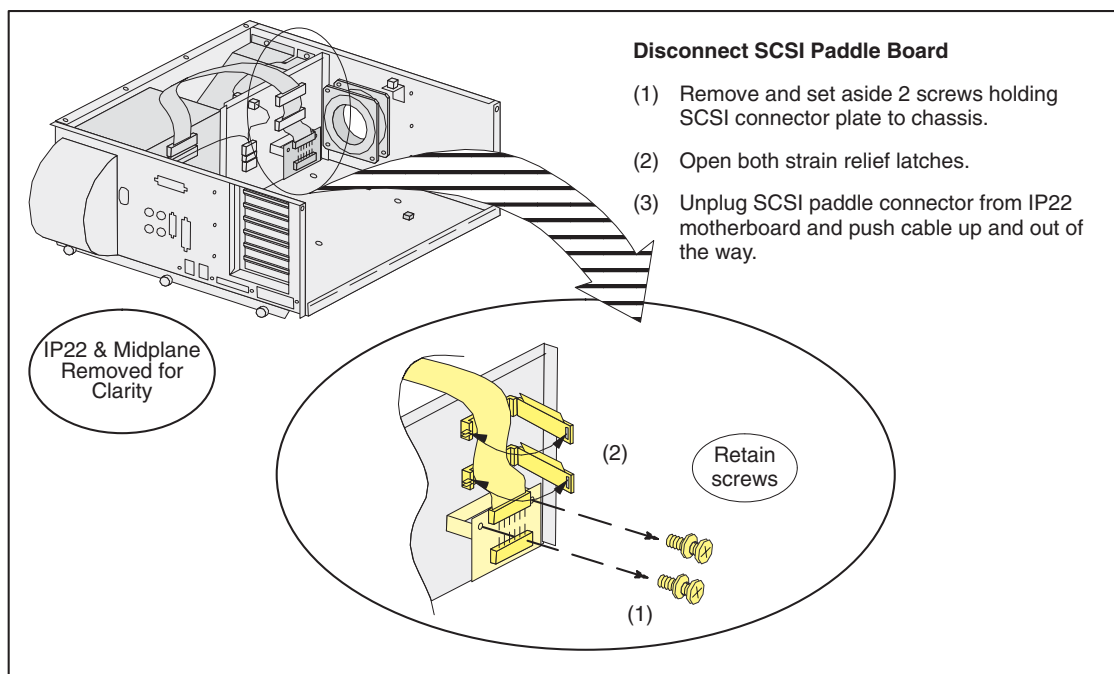
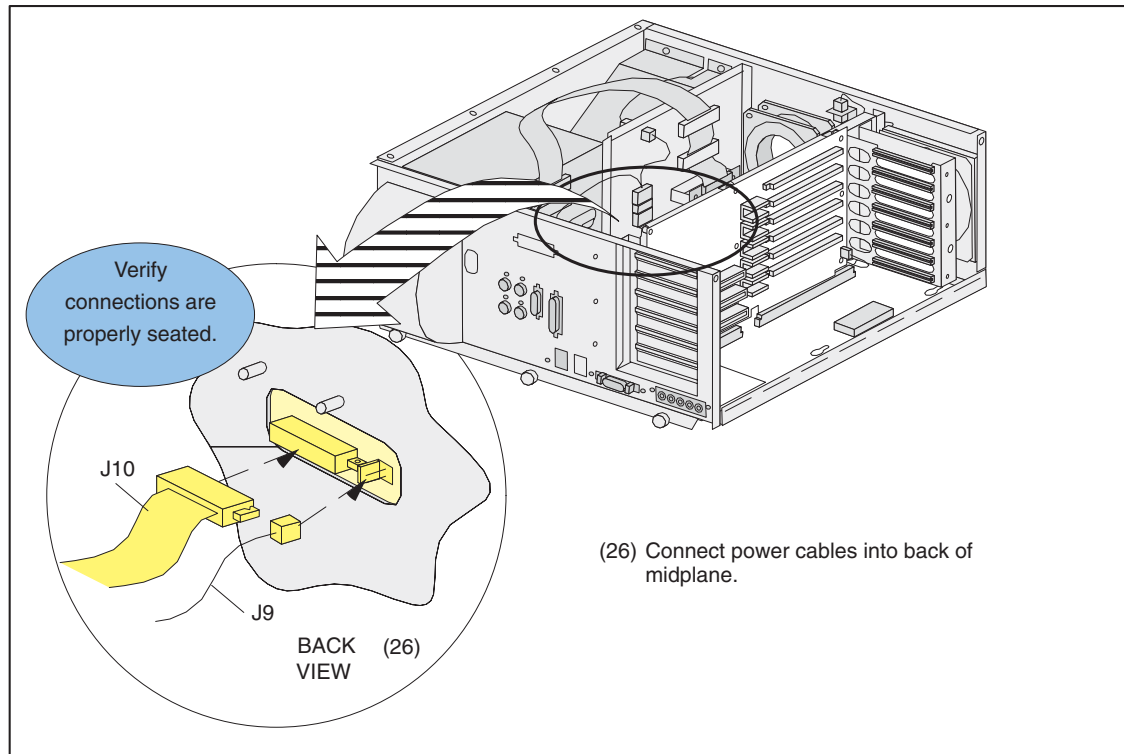

Figure 8-71 Disconnect SCSI Paddle Board
Figure 8-82 Re-Connect Midplane Power Connections
- 2.) Remove the Midplane Assembly, follow the procedures in Figure 8-71 through Figure 8-82 that follow.